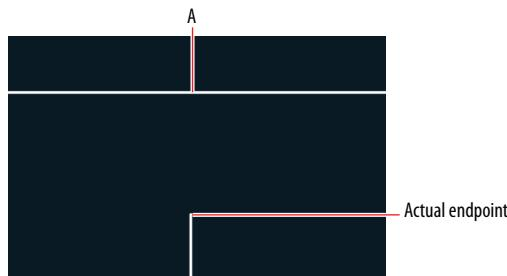

FIGURE 3.10 Zooming in reveals that the lines do not meet.
2. Press **Z** and then Enter. Click two points to define a tightly cropped zoom window around point A. Zoom in again if necessary until you can see that the endpoint of the line you just drew is not on the horizontal line (see Figure 3.10). No matter how carefully you clicked point A in the previous step, the line you drew will not be on the edge (it will either fall short of it or overshoot it).